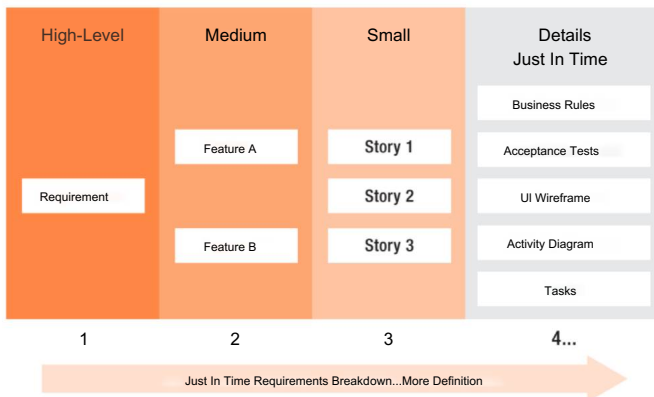

FIGURE 7.14 Levels of agile requirements
Think about it. The following is agile scope decomposition, illustrated. Figure 7.14 shows levels of agile requirements. Following the figure, the sections of the illustration (numbered for convenience) are explained in greater detail. Then, walk through an agile project in your mind, using the health clinic client portal case as an example.
4. Details Each story needs to be broken further by various types of requirements, some of which are depicted in figure 7.14. The breakdown is described as *just in time* because agile teams wait for the *last responsible moment* to make sure they have all the details to build a story. The last responsible moment is the moment at which story decomposition has reached its logical conclusion and the most information is available about what needs to be done to build a story.